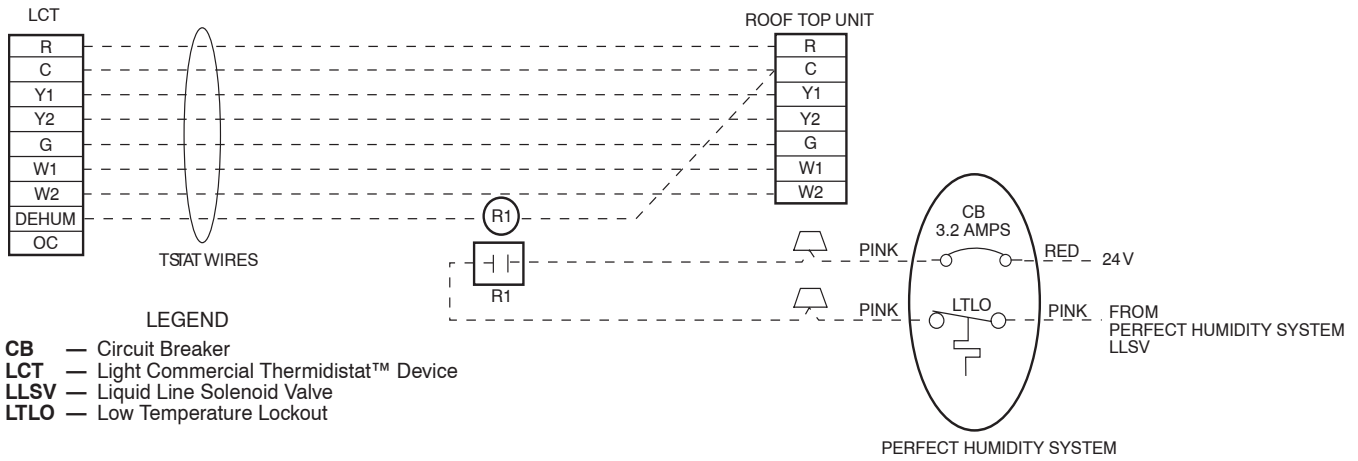

Fig. 16 – Typical Rooftop Unit with Perfect Humidity Adaptive Dehumidification System with Thermidistat Device
3. A field-supplied relay must be installed between the thermidistat and the Perfect Humidity circuit (recommended relay: HN61KK324). (See Fig. 16.) The relay coil is connected between the DEHUM output and C (common) of the unit. The relay controls the Perfect Humidity solenoid valve and must be wired between the Perfect Humidity fuse and the low-pressure switch. Refer to the installation instructions included with the Bryant Light Commercial Thermidistat device for more information.